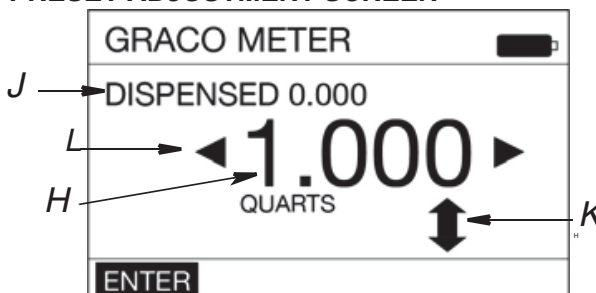

FIG. 31
2. If ACTIVATE (A) is not highlighted, use the LEFT or RIGHT ARROW button on the keypad to highlight ACTIVATE (FIG. 31); then press the center, ENTER button on the keypad to select it.
- **PRESET** - Allows for increasing, decreasing or entirely changing the amount of fluid for the PRESET selection. The screen shown in FIG. 31 displays. See Function Command (C)/PRESET, page 18 for instructions on changing the PRESET).
- **RESET** - Resets the Dispensed Fluid Counter (D) back to 0.000.